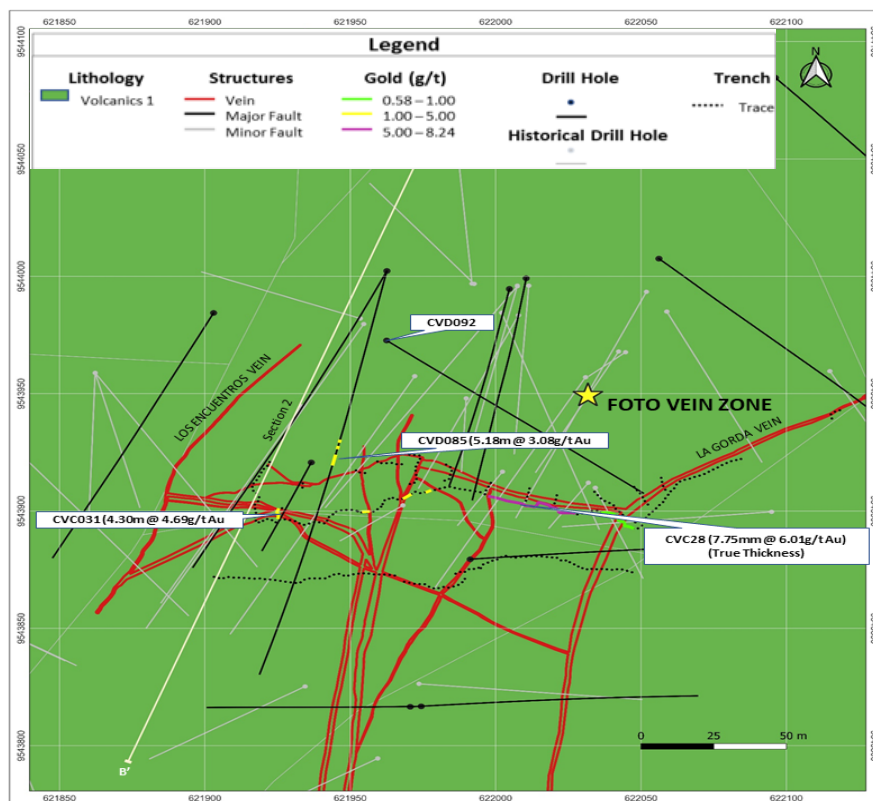

Figure 6: Significant intercepts within the Foto-Copetona-Gorda vein system.
To date a total length of 1,220.83m of trench sample has been conducted in 36 trenches. Assay results have been received for five trenches totalling 189.17m (Figure 6). Significant intercepts are included in Appendix B. Better trench results include:
- 7.75m @ 6.01g/t gold and 36.5g/t silver – Channel CVC028 has targeted “Gorda-Foto-Copetona” vein zones with sampling extending the length of the Foto vein through this zone of multiple vein intersections to assess grade continuity in these areas of structural complexity (Figure 6). The intersections of these veins have the potential to host high-grade plunging shoots of mineralization down plunge with surface sampling centered on a 7.75m true width of this outcropping mineralized shoot.
- 4.30m @ 4.69g/t gold and 40.0g/t silver – Channel CVC031 was aimed to test the bonanza high-grade zone controlled by the intersection between Foto 2 and Foto 5 veins (Figure 6).